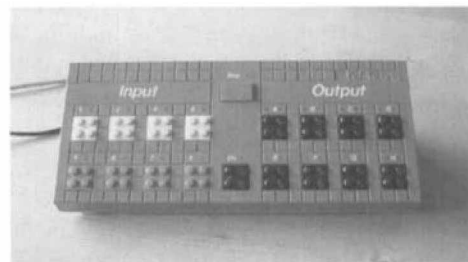

Fig. 4: The interface box (IB)
Fig. 4 illustrates the interface box (IB), that is capable of controlling eight input devices (sensors) and eight output devices (actuators). The IB is linked to the computer over an serial cable